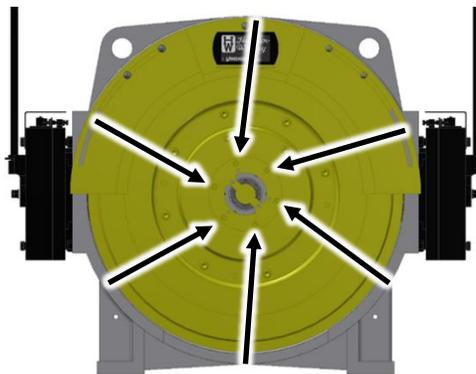

Figure 37
7. Install the six M6 bolts using the hex wrench (5mm). See Figure 37.